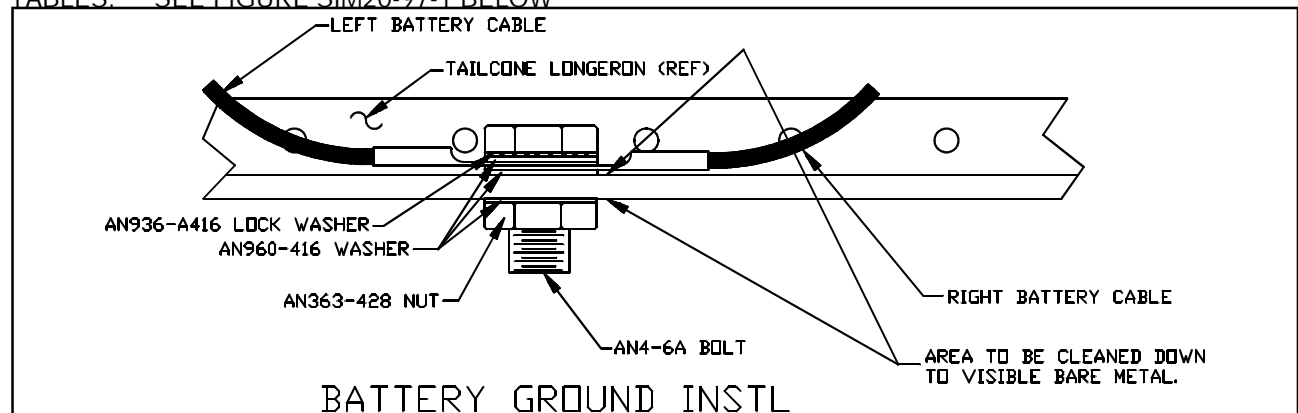

FIGURE SIM20-97-1
6. Install 1 each AN4-6A bolt, with AN936-A416 lock washer (or alternate), AN960-416 washer, the two cable terminals and another AN960-416 washer, through the cleaned hole in the longeron (See Figure SIM20-97-1). Install an AN960-416 washer and an AN363-428 nut onto bolt, tighten and check for cable security. The terminal ends of the ground cables must be in full contact with each other and the AN960-416 washer, under terminals, must be in full contact with the bare metal on the longeron.
TABLES: SEE FIGURE SIM20-97-1 BELOW